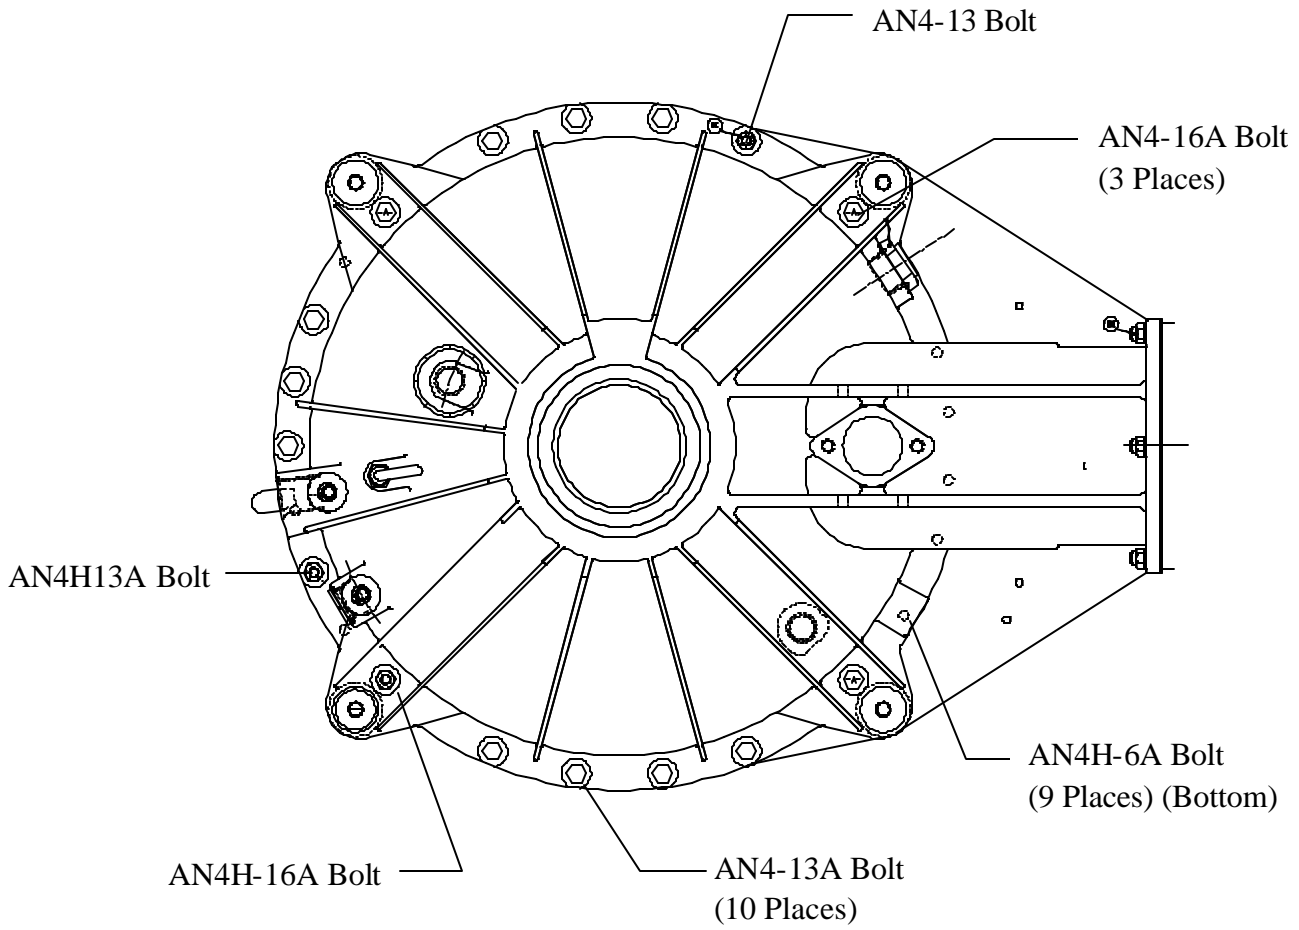

Figure 1. Main Rotor Gearbox Attachment Bolts
- A. Locate the main rotor gearbox bottom cover attachment bolts (reference Figure 1).